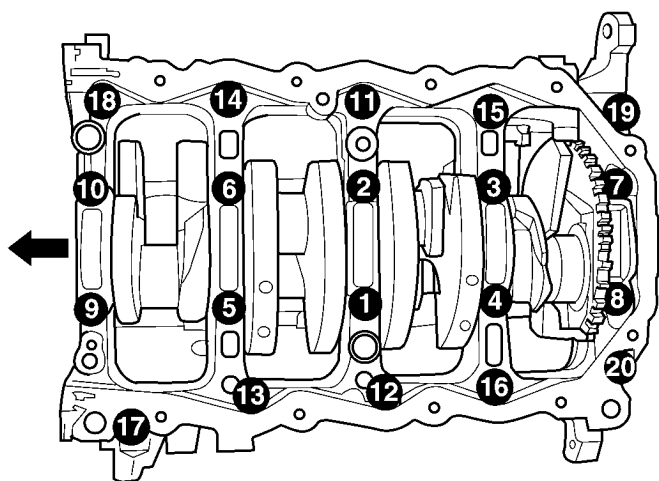

Fig. 56 Main Bearing Caps/Bed Plate Bolt Removal Sequence
(19) Remove all bed plate bolts from the engine block (Fig. 56).